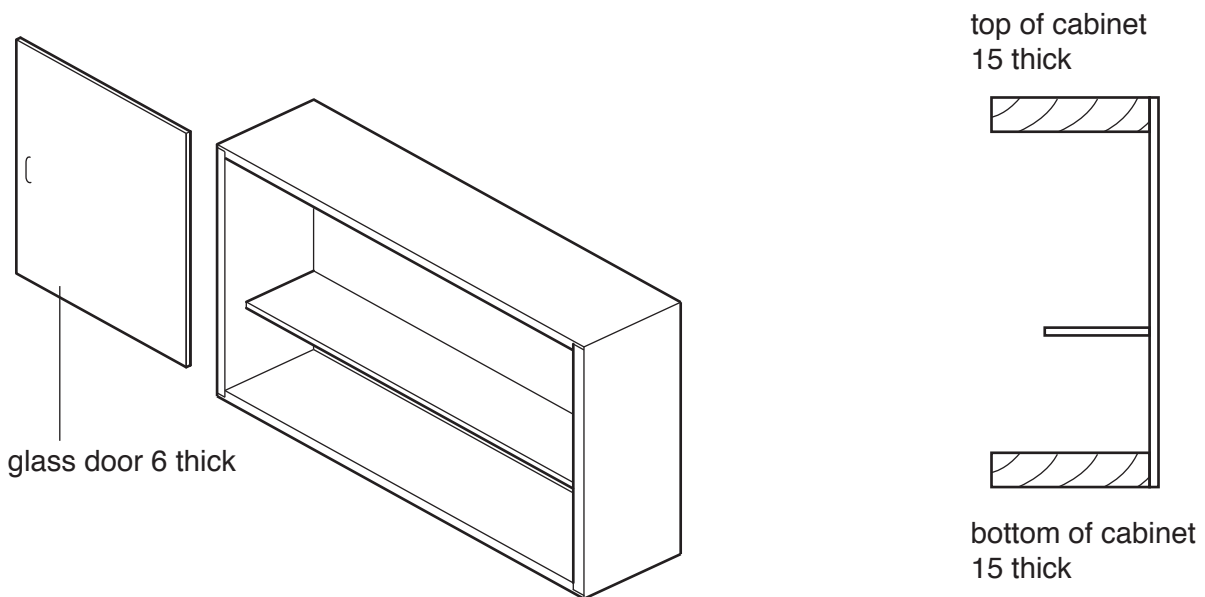

Fig. 7
- 8 Fig. 7 shows views of a cabinet and a 6 mm thick sliding glass door to be fitted inside the cabinet. Add sketches and notes to Fig. 7 to show how **two** sliding glass doors could be fitted inside the cabinet.